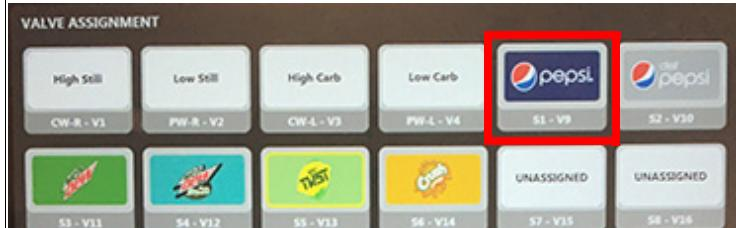

Figure 40 Service Screen
**Result:** The **Service Screen** appears as in Figure 40.